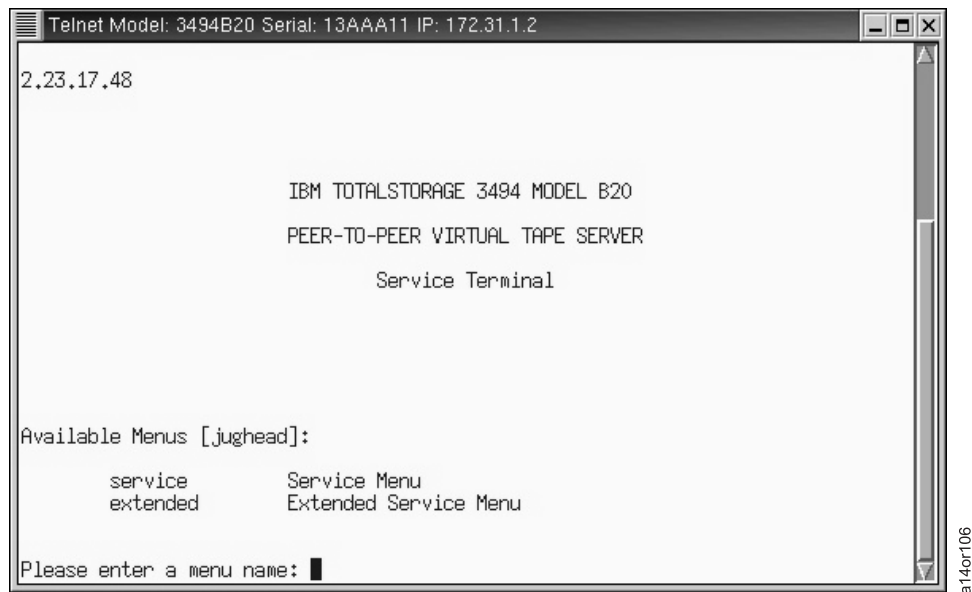

Figure 3-2. Telnet to Attached Tape System – Connection Successful
3. When you have a successful telnet connection, you see the screen shown in Figure 3-2 on page 3-2.